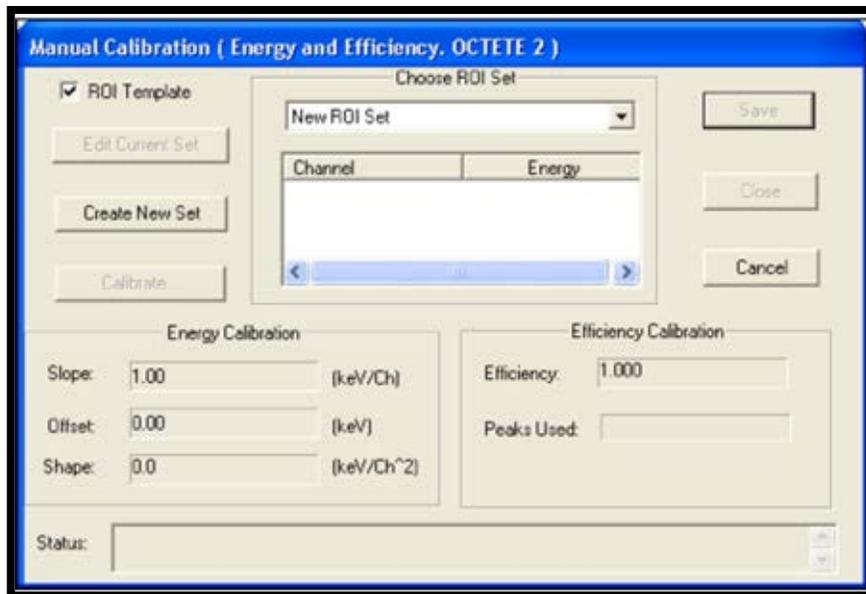

Figure 159. Manual Calibration Dialog
- 13) When the count is complete, the Manual Energy and Efficiency Calibration dialog will open (Figure 159). In this window, users will use the calibration source data to calibrate the detector. Note, however, that users will be able to change these data to match the spectrum more precisely if desired. Users may find it useful to move the dialog away from the Spectrum Window (click and drag by the dialog's title bar).